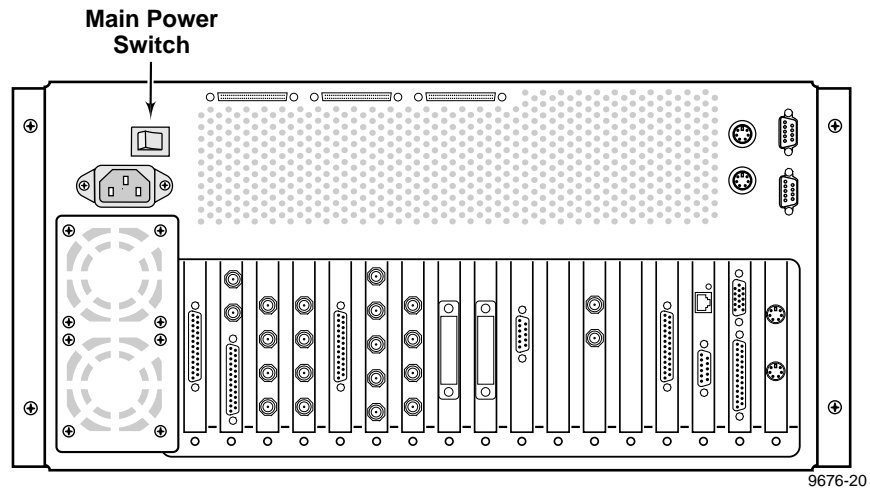
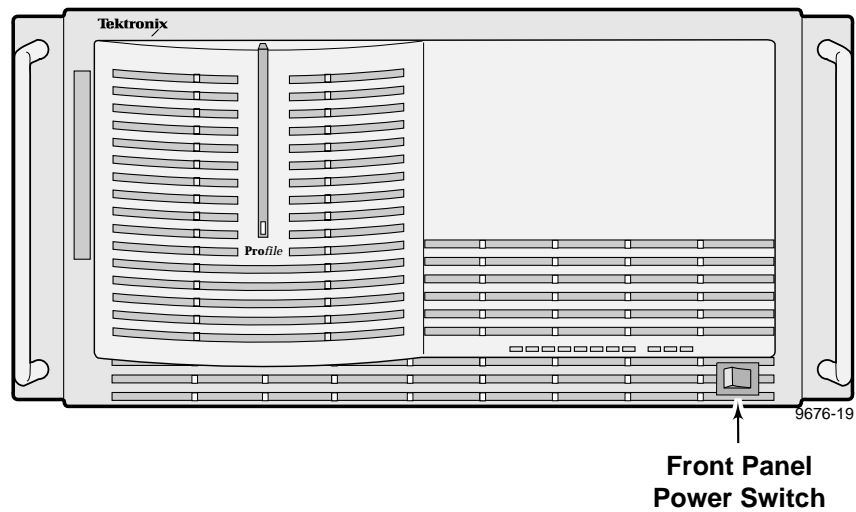

Figure 3-1. Rear Panel Main Power Switch
Figure 3-2. Front Panel Power Switch
See Figure 3-1 for the location of the main power switch on the rear panel and Figure 3-2 for the PDR200 front panel switch. To turn Profile power On:
5. On the rear panel of the PDR 200 (see Figure 3-1), turn the main power switch to **1 (On)**.
6. On the front panel of the PDR 200 (see Figure 3-2), turn the power switch to On.